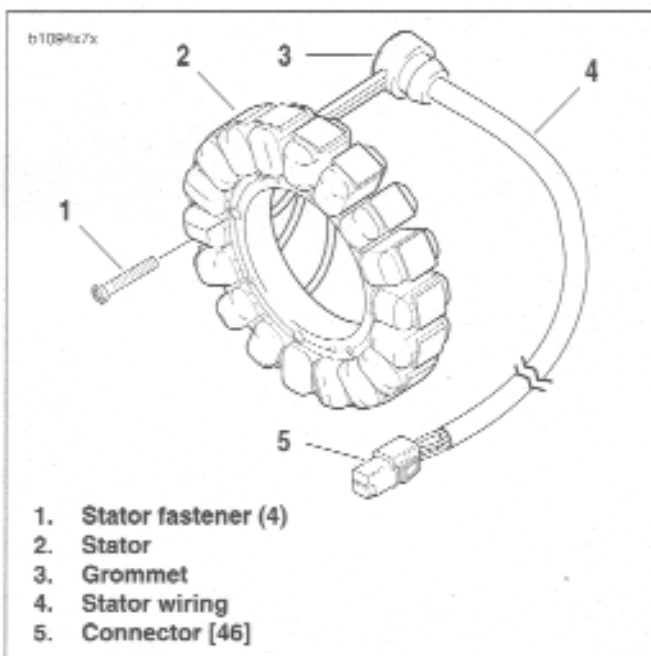

Figure 7-31. Stator Assembly
1. See Figure 7-31. Disconnect stator wiring (4) from voltage regulator wiring at connector (5) [46] under sprocket cover. See 7.24 SPROCKET COVER WIRING.